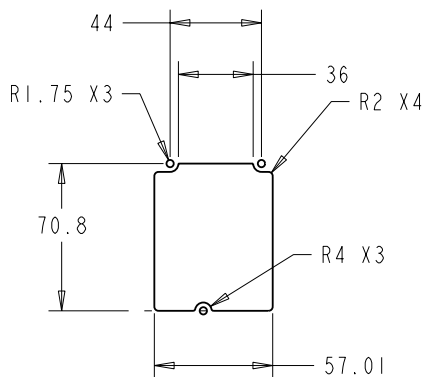

Figure 8. Suggested TFX12V Chassis Cutout
- Chassis cutout (normally in the rear panel of the chassis) as shown in Figure 8.